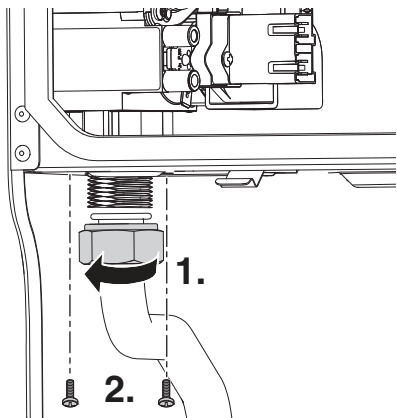

Fig. 73 Gas valve lower connection
- 1. Refer to figure 73 and undo bottom gas connection to gas valve.